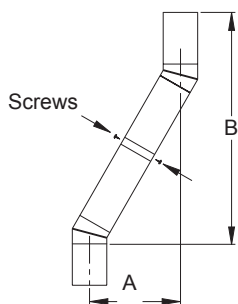

Figure 10 - Elbow Offset
if properly locked. It is not necessary to add screws to keep the chimney together (exception, see Figure 10).
1. To achieve desired offset, you may install combinations of 12", 18", 24", 36" and 48" length of double wall pipe (see offset chart and Figure 10).
4. All pipe connections between the offset and return must be secured with two screws on the outer pipe only (see Figure 10). Do not penetrate the inner stainless.